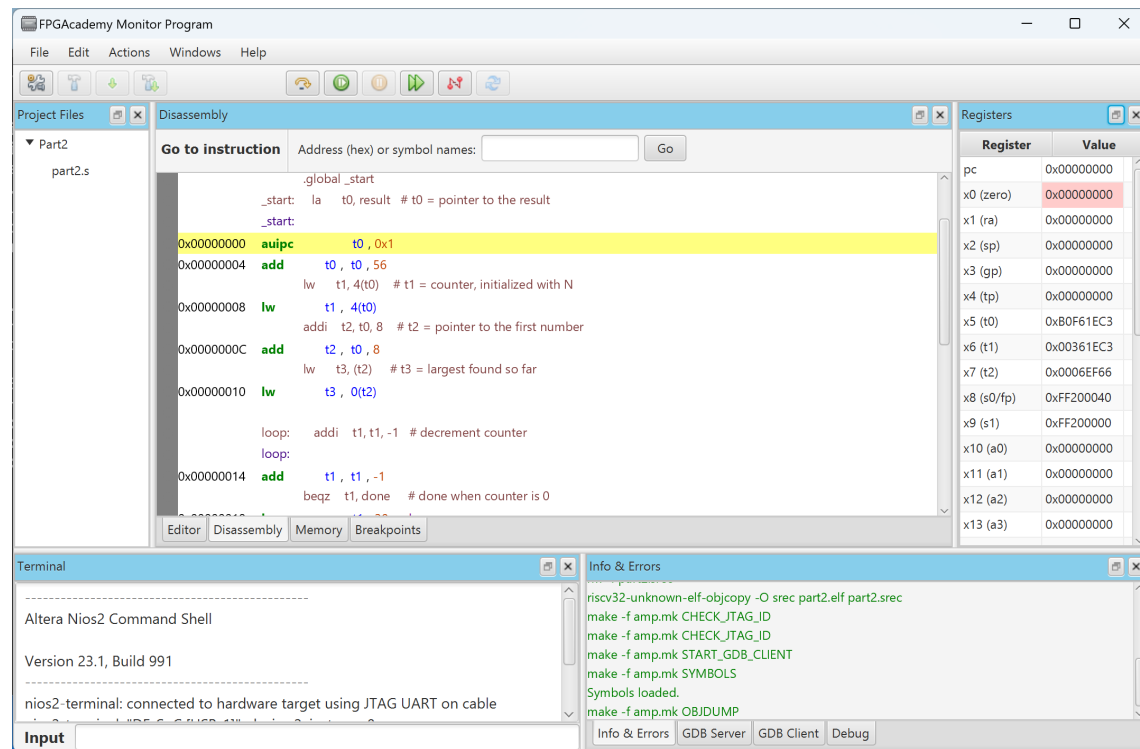

Figure 22: The disassembled view of the program in Figure 1.
3. Compile and load the program. The Monitor Program will display a disassembled view of the machine code loaded in the memory, as indicated in Figure 22.